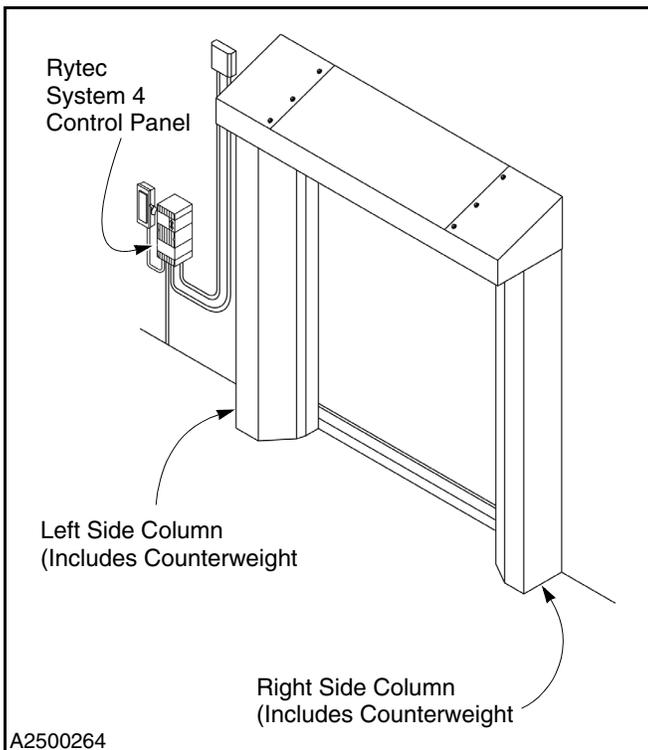

Figure 52
3. To ensure that the correct parts for your controller are shipped, please include the serial number of your door with the order. Refer to the owner's manual of your door to determine the location of the serial number plate. The serial number plate is generally located inside one of the side columns. (See Figure 52.)